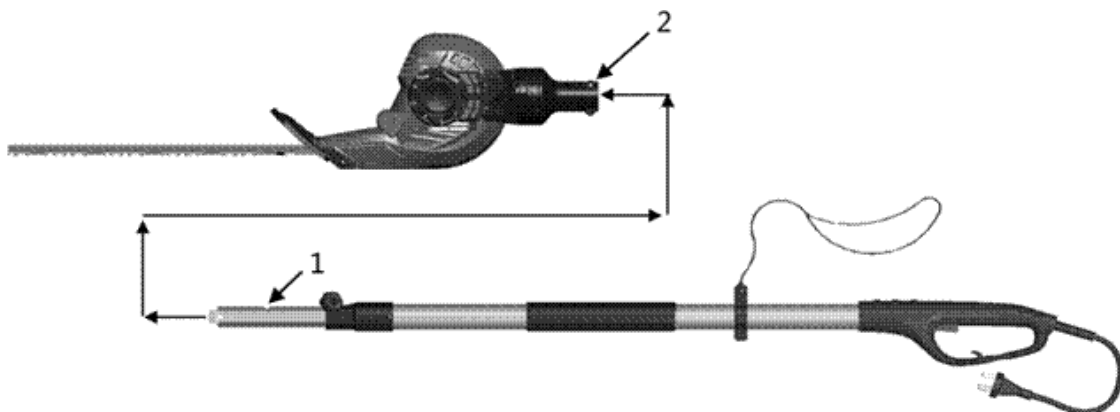

Figure 2
2. Insert the rear handle into the front part in direction A (see Figure 2). Make sure that the slot 1 (slot 1 on former pole) is in place 2 (hole 2 in link handle).